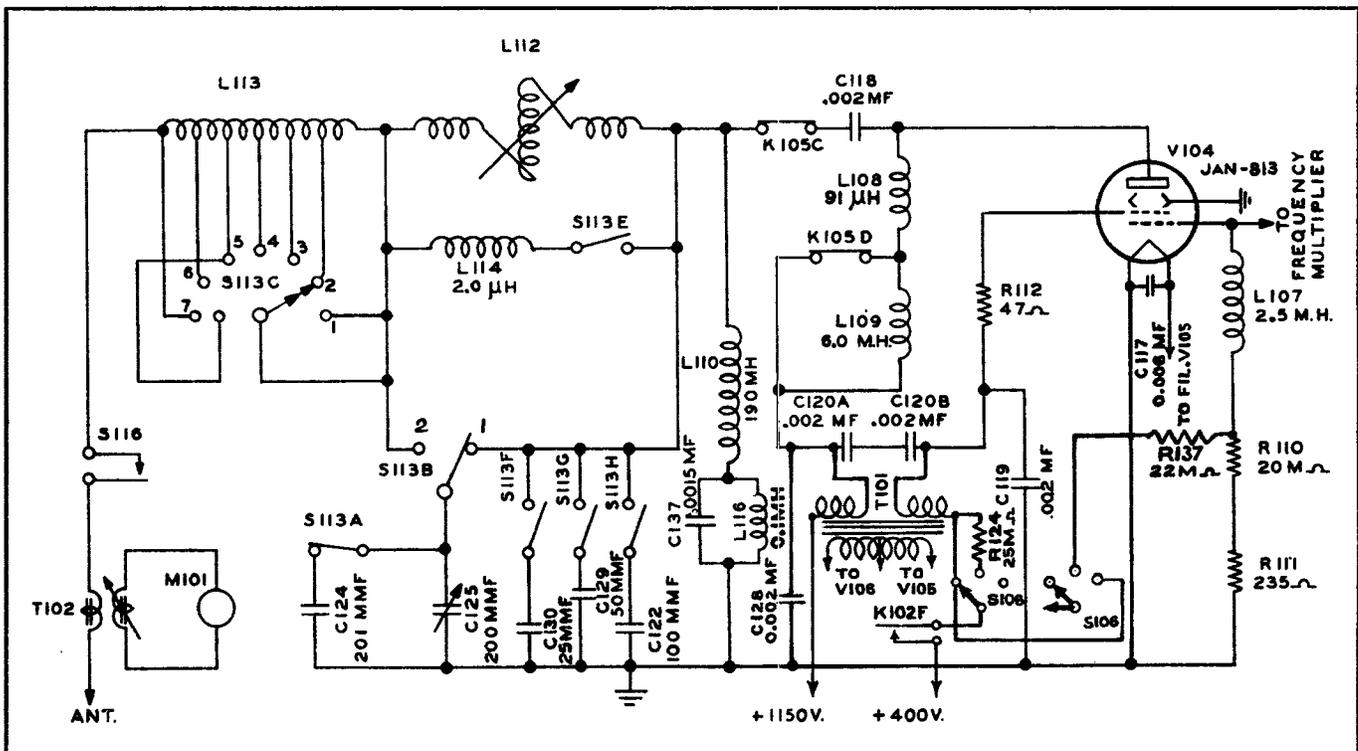

Figure 4-13. Power Amplifier and High Frequency Output Circuits
(6) POWER AMPLIFIER AND OUTPUT NETWORK.—The power amplifier stage employs a Type JAN-813 beam pentode tube and operates as a straight amplifier at all frequencies. When the transmitter is operating in the frequency range 200 kc to 600 kc, the output of the l-f oscillator is capacitively coupled to the grid of the power amplifier (see fig. 4-13). When the transmitter is operating in the frequency range 2.0 mc to 6.0 mc the output of the first frequency multiplier tube, V102, is coupled to the grid of the power amplifier tube through first multiplier range switch S102 contacts and capacitor C116. When the transmitter is operating in the frequency range 6.0 mc to 18.1 mc the output of the second frequency multiplier tube, V103 is coupled to the grid of the final amplifier tube, V104, through second multiplier range switch contacts S103 and capacitor C116. When l-f operation has been selected output circuit selecting relay K105 operates to connect the plate circuit of the final amplifier tube, V104, to external loading coil terminal J117.